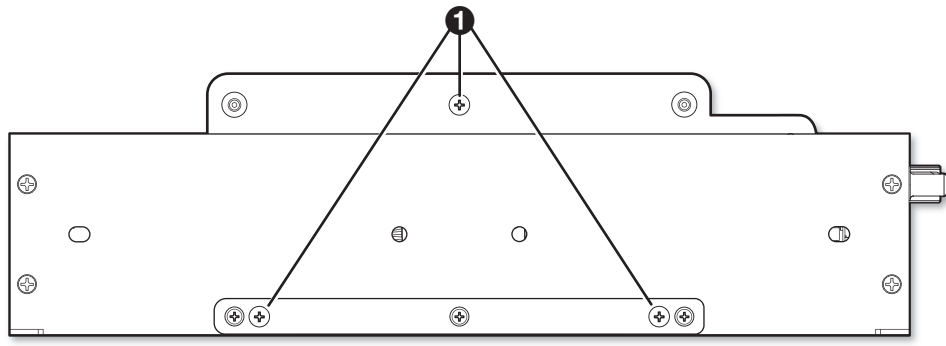

Figure 3. Pegs on the Back of the Power Supply
5. Lift the power supply up slightly and slide it toward you, out of the chassis (②).
NOTE: There are two keyhole slots in the back wall and one on the front surface of the power supply compartment. The power supply has three protruding pegs (see figure 3, ①).